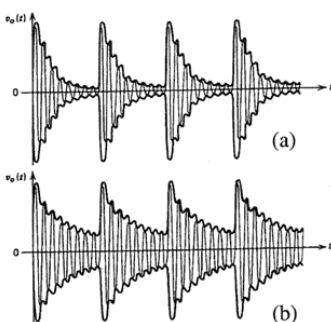

Fig.2. SSB waveforms: (a) unprocessed speech (the repeated word “three”) with 16dB peak-to-average ratio; (b) the same word with 6dB of compression
Figure 2 — Here is a plot of the transfer function (T) of a pi network. The design frequency for this example was 1 MHz. T is normalized to 0 dB at the design frequency.